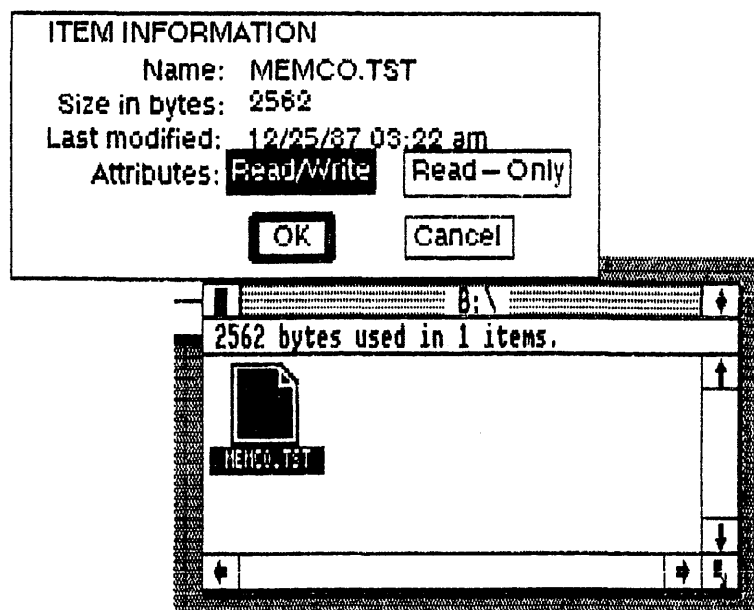

Fig. I-3. The ITEM INFORMATION dialog.
1. Rename the item (Fig. I-3).